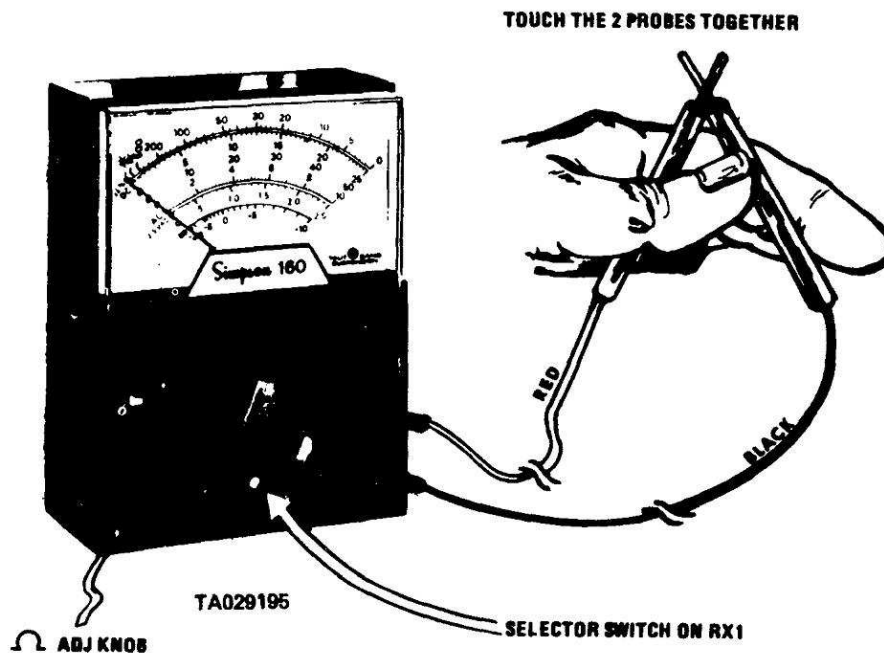

Figure 2-16. Zeroing the Simpson 160.
(3) *Simpson 160.* Refer to figure 2-16.